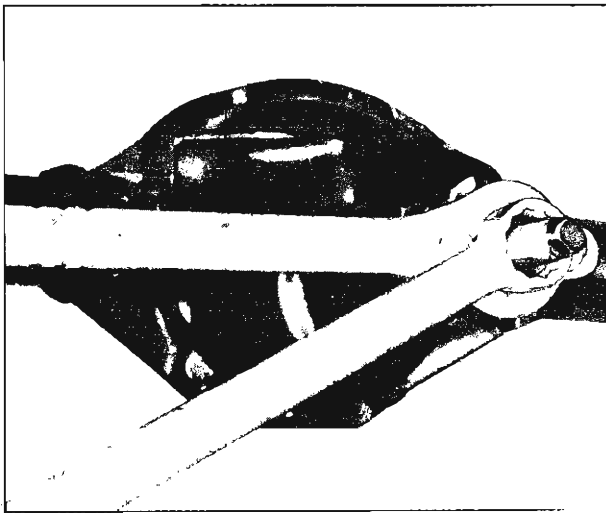

Fig. 50—Drive Pinion Flange Installation
11. Position and align pinion flange on pinion shaft using Tools J-9458 and J-8614-1. Tool J-9458-1 is threaded onto pinion shaft and nut tightened against J-9458-2 to pull flange on shaft (fig. 50). Remove J-9458 after flange is seated.